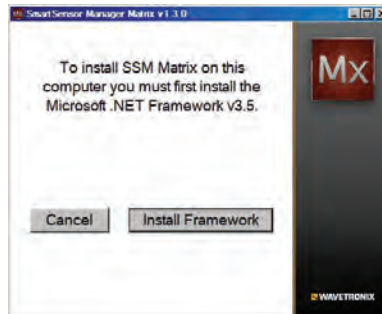

Figure 4.5 – Microsoft .NET Framework V2.0 Prompt
- 3 Click the Pocket PC checkbox and then the **Next>>** button to install SSMM on a connected handheld device (see Figure 4.5). If both the Computer and Pocket PC boxes are checked, the setup program will first install the SSMM software to the PC.